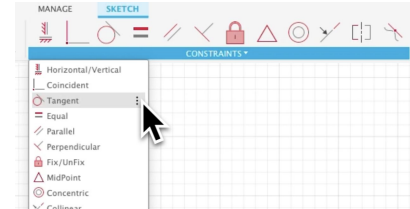

Figure 1.5
- **Tangent:** Ensures that a curve and another object touch at exactly one point without crossing each other. This creates a smooth transition between the two objects. You can apply this constraint by selecting '**Tangent**' under the '**Constraints**' menu, then choosing the two objects you want to make tangent (see Figure 1.5)